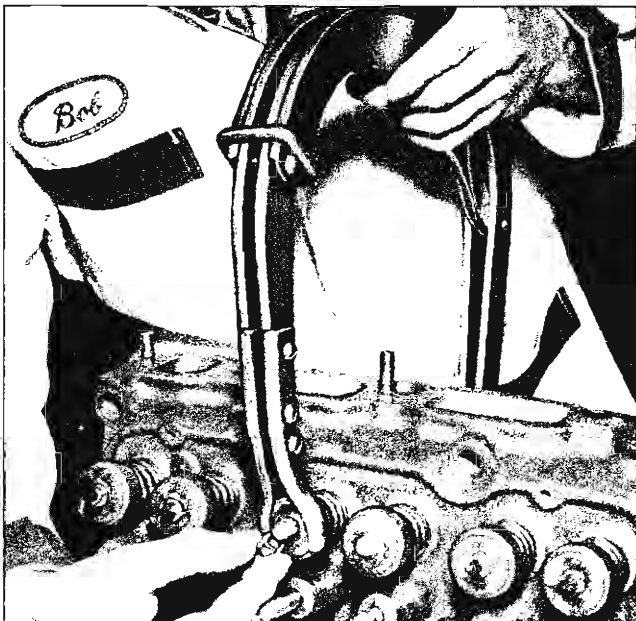

Fig. 12—Compressing Valve Springs
2. Using Tool J-8062, compress the valve spring and remove valve keys (fig. 12). Release the spring compressor tool and remove spring caps, spring seats, oil seals, springs and spring dampers.